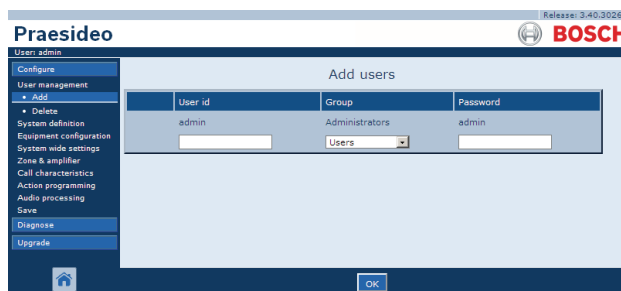

figure 42.2: Add user, step 1
- 1 Go to *Configure > User management > Add*. A screen similar to the one in figure 42.2 appears in the main frame of the web interface.